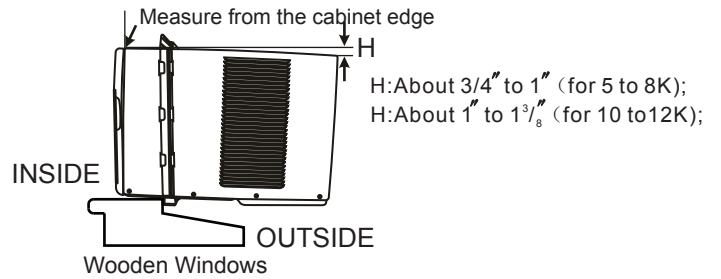
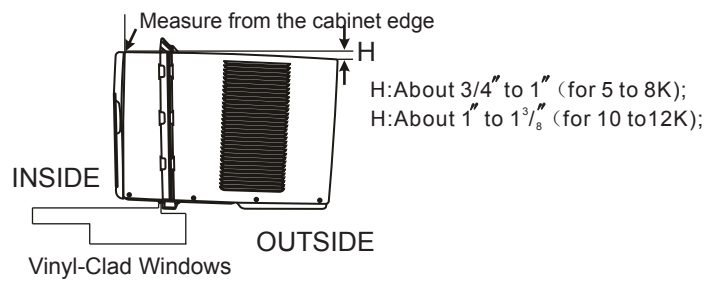

Fig.5A
Fig.5B
A. Keep a firm grip on the air conditioner, carefully place the unit into the window opening so the bottom of the air conditioner frame is against the window sill (Fig.5A and Fig.5B). Carefully close the window behind the top rail of the unit.
**NOTE:** Check that air conditioner is tilted back about H (Fig.5A and Fig.5B) (tilted about 3° to 4° downward to the outside). After proper installation, condensate should not drain from the overflow drain hole during normal use, correct the slope otherwise.